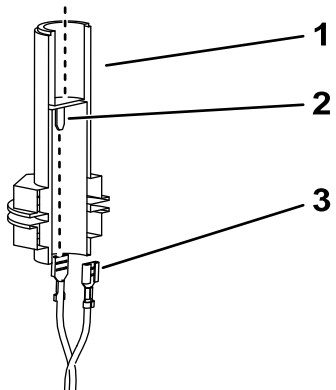

Figure 5
- Connect the loose beacon harness connectors to the spades in the beacon socket connector (Figure 5).